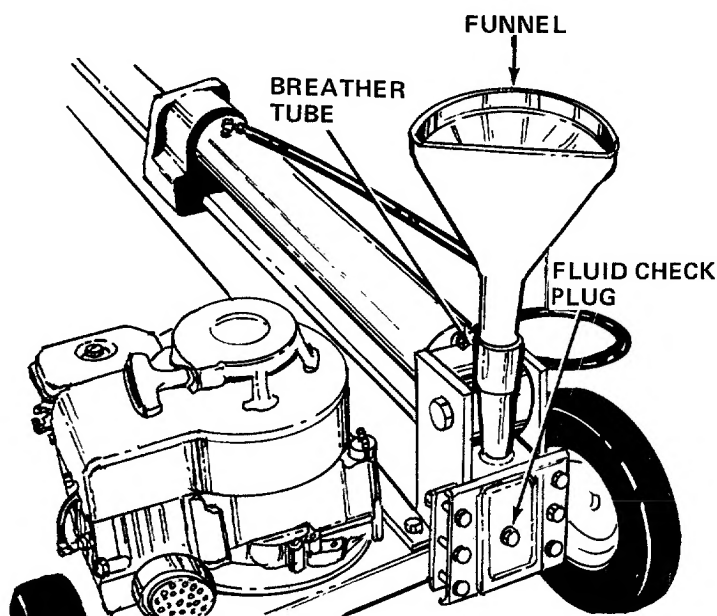

FIGURE 9
- B. Remove the fluid check plug from the back of the log splitter. See figure 9. If fluid starts to come out of the hole, fluid level is correct. If it does not, replace the check plug loosely, pull the cap off the breather tube, and add Dexron II automatic transmission fluid until fluid starts out of the hole when the plug is removed.